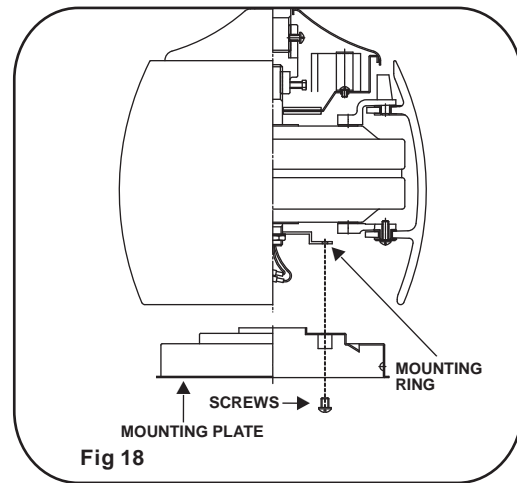

Fig 18
Step 2. Place the key holes from the mounting plate over the 2 screws previously loosened from the mounting ring, turn mounting plate until it locks in place at the narrow section of the key holes. Secure by tightening the 2 screws previously loosened and the one previously removed. (Fig. 18)